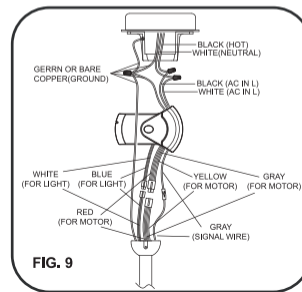

FIG. 9
Step 1. Receiver to House Supply Wires Electrical Connections: Connect the **WHITE** wire (Neutral) from the outlet box to the **WHITE** wire marked 'AC in N' from the receiver. Connect the **BLACK** wire (Hot) from the outlet box to the **BLACK** wire marked 'AC in L' from the receiver. Secure all wire connections with the plastic wire nuts provided. (Fig. 9)
Step 2. If your outlet box has a **GROUND** wire (Green or Bare Copper) connect this wire to the Hanger Ball and Hanger Bracket Ground wires. If your outlet box does not have a Ground Wire, then connect the Hanger Ball and Hanger Bracket Ground Wires together. Secure wire connection with the plastic wire connector provided. (Fig. 9)